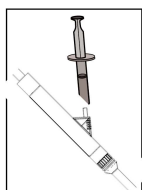
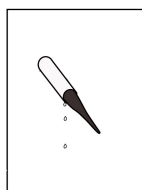

Fig. 4a
Fig. 4b
- Flush the stent delivery system with a 10cc syringe of saline through the injection port to expel air (Refer to Fig. 4a). Continue to flush until saline flows out of the distal catheter end (Refer to Fig. 4b).